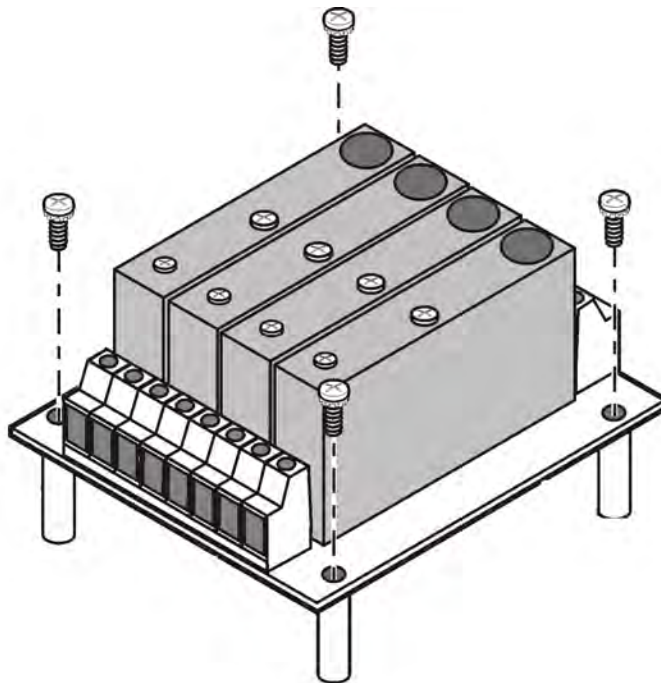

Figure D-3 Digital I/O Modules on Orion Reader
1. Place the Digital I/O Module (Figure D-3) on the Orion Reader.